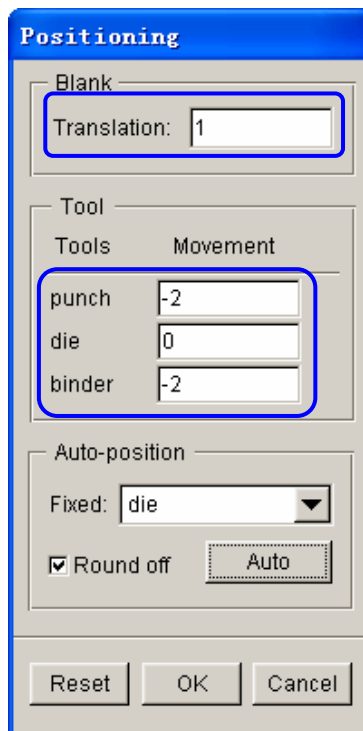

Figure 2.32 After tools auto positioning
3. Then, click the **Auto** button to position all tools and blanks. The result is illustrated in Figure 2.32.